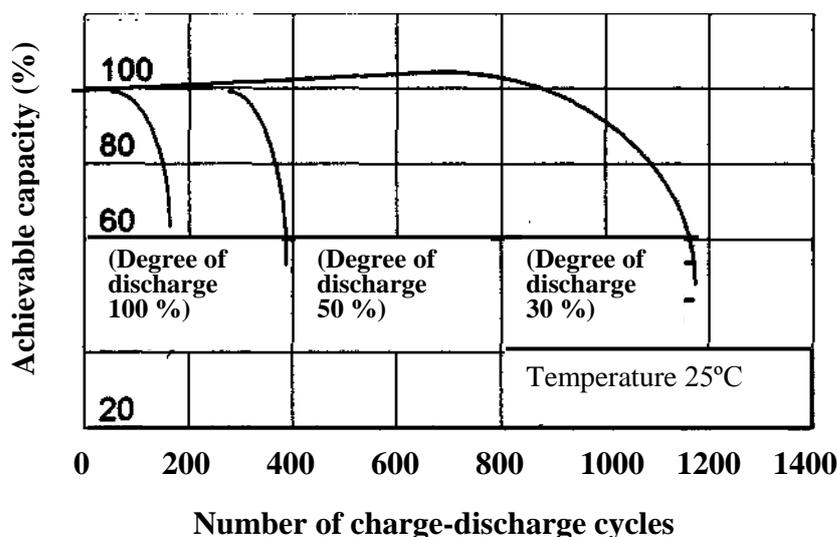

Fig. 6. Service life in charge-discharge cycles
11.3. The degree of charge (discharge) of the battery can be assessed with the use of the plot in Fig. 6 through measuring the voltage of the battery at no-load.